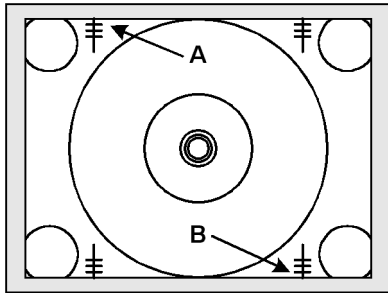

Figure 23. Vertical size
1. In the service mode, select the vertical size adjustment DAC (C06). Adjust until a perfect circle appears (upper and lower sections of circle may extend beyond the screen and therefore not visible). see Fig. 23.